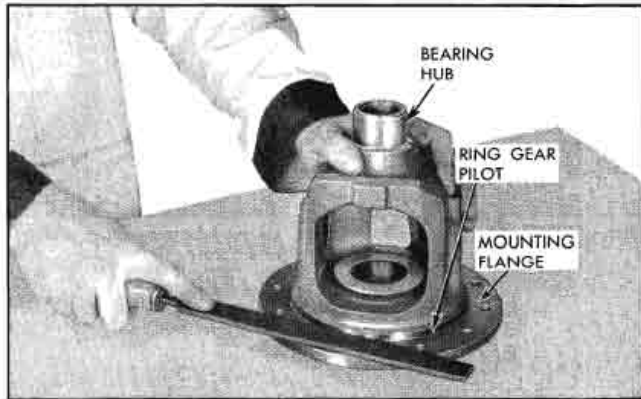

Fig. 4-54 Removing Burrs and Nicks From Mounting Flange
2. Remove nicks and burrs with mill file (Fig. 4-54).